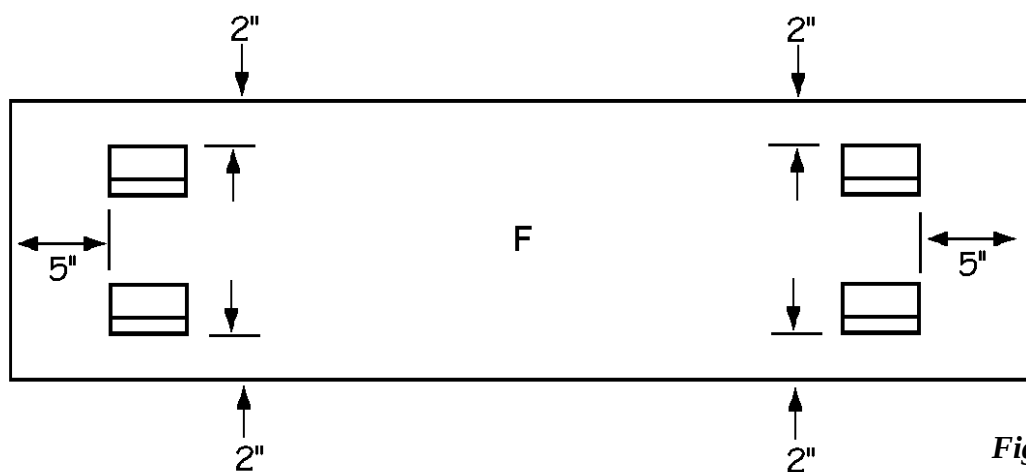

Figure 4
1. Cut two base top/bottoms (F) from 3/4-inch-thick plywood, each measuring 12-1/2 x 46-1/2 inches.
2. The four round legs that connect the base to the top of the buffet are lengths of PVC pipe, which are reinforced by wooden supports. Cut four large leg supports (G) from 2 x 4 pine, each measuring 17-1/2 inches long.
3. Cut four small leg supports (H) from 1 x 4 pine, each measuring 17 1/2 inches.
4. Glue each large leg support (G) to one small leg support (H), matching ends and edges, to make a leg support assembly 2 1/4 inches thick. Either clamp the pieces together for an hour or drive three 1 1/2-inch screws through each small leg support (H) into its large leg support (G).
6. Following the measurements in *Figure 4*, draw four 2 1/4" x 3 1/2" rectangles on one of the base top/bottoms (F). This will be the exact placement for the four leg support assemblies (G/H).
7. Attach the four leg support assemblies (G/H) to the base top (F), placing them exactly over the rectangles that you drew. Screw through the base top (F) into the leg support assemblies (G/H), using four 3-inch screws on each leg support assembly (G/H).
8. Cut two base sides (I) from 1 x 4 pine, each measuring 12-1/2 inches long.